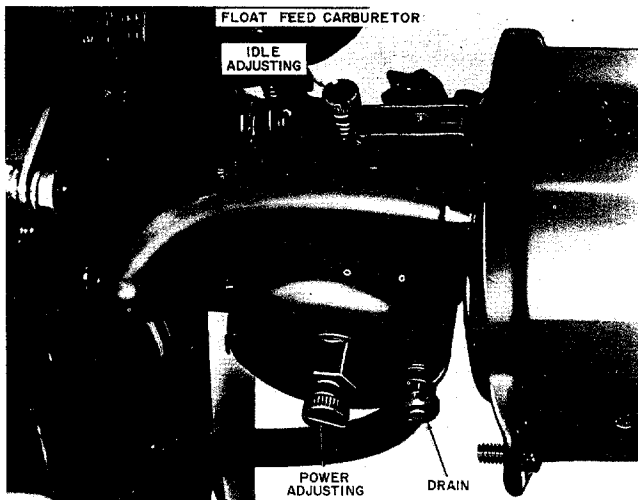

FIGURE 18.
1. Close power adjusting needle (figure 18) by turning to right (clockwise). Close finger tight only. Forcing will cause damage.
3. Close idle adjusting needle (figure 18) by turning to right (clockwise). Close finger tight only. Forcing will cause damage.
7. Hold throttle lever closed or move carburetor control to IDLE or SLOW position and adjust idle adjusting needle until engine runs smoothly proceeding as in step six (6) above.
8. Allow several seconds between each adjustment when performing either step six (6) or seven (7) to allow engine to react to new setting.
2. Drain carburetor by pressing upward on bowl drain (figure 18).